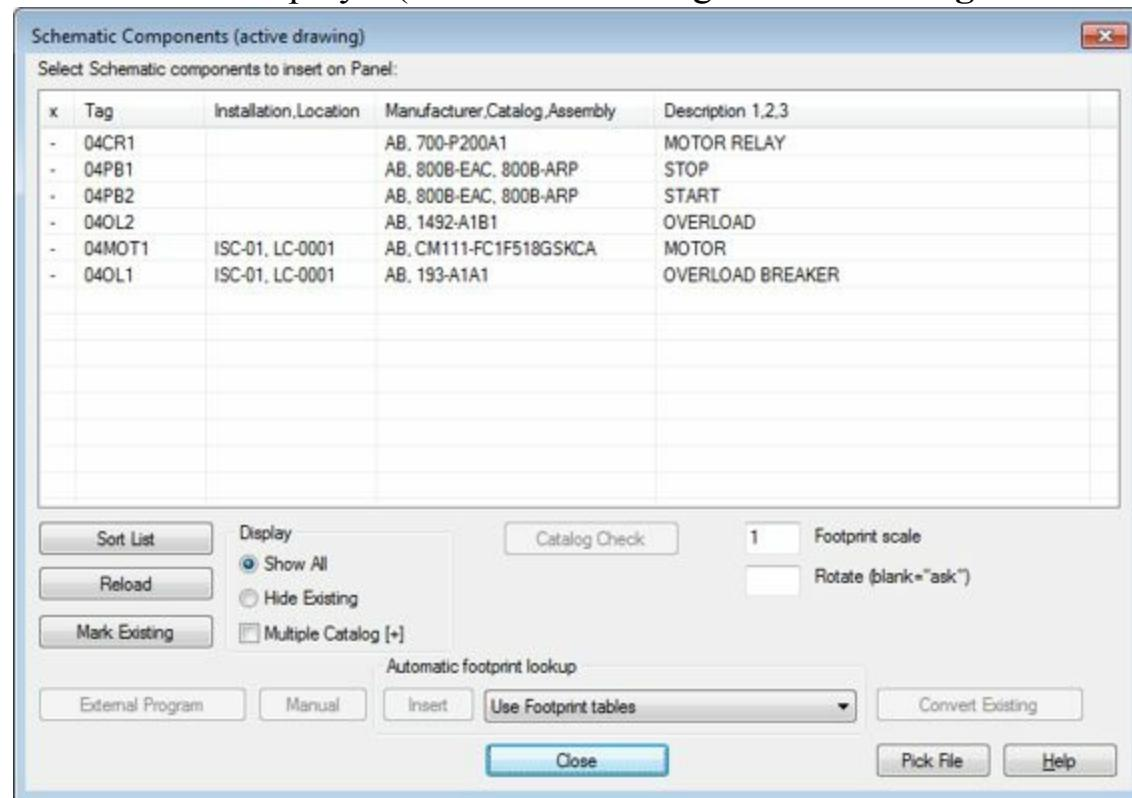

Figure-13. Schematic Components dialog box
- Click on the **OK** button from the dialog box. The **Schematic Components (active drawing)** dialog box will be displayed(in case of selecting **Active drawing** radio button); refer to Figure-13.